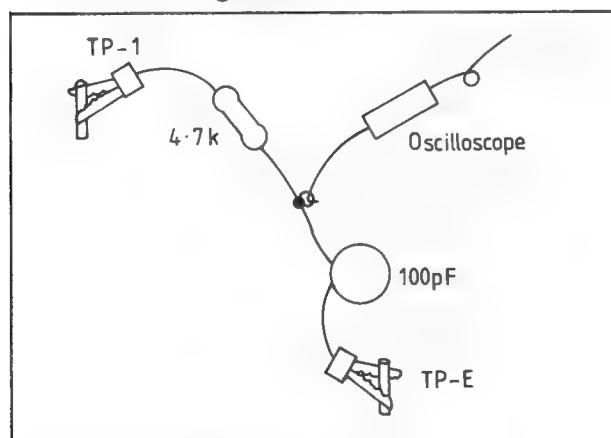

Fig 7.24 Oscilloscope Probe Connection for Vertical Centre Adjustment
- (1) Connect the RC jumper between terminals TP-1 and TP-E on the Video Process PCB (CA 1501A), then connect the oscilloscope probe to a neutral point of the jumper as shown in Figure 7.24